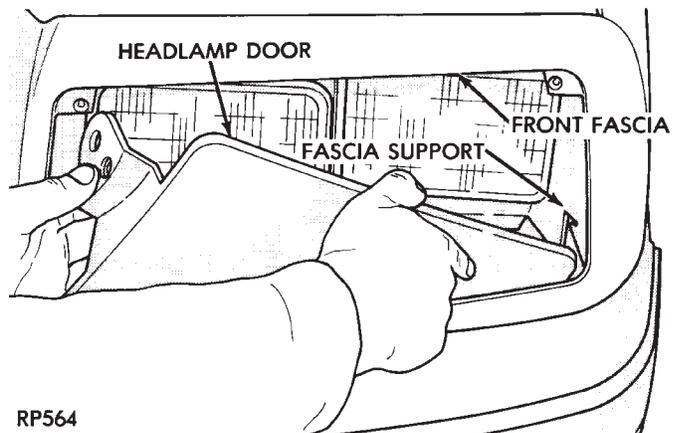

Fig. 8 Headlamp Door
(7) Position the outside end of the headlamp door under the fascia support. Lift the inside end of the door to clear the fascia opening. Remove the headlamp door from the vehicle (Fig. 8).